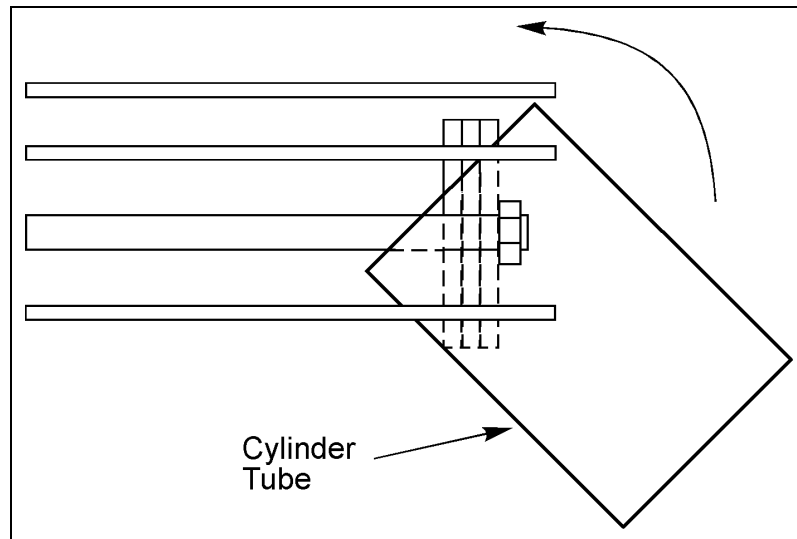

**Figure 2—Cylinder Parts Location**
2. Attach the cylinder head to the actuator. See Figure 2.